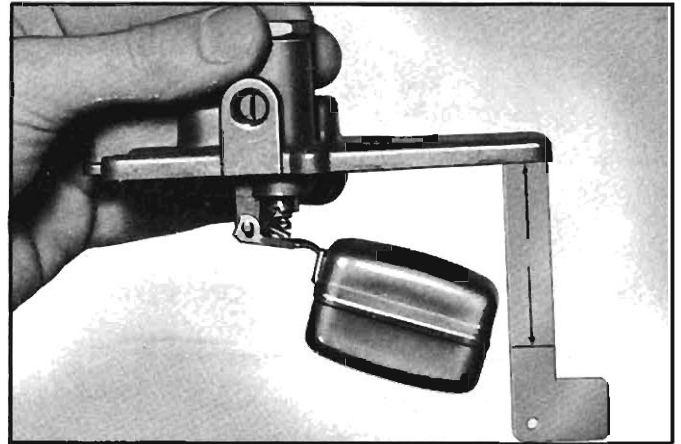

Fig. 9-30—Measuring Float Drop
6. Measure the distance between cover gasket surface and bottom of float at free end (fig. 9-30). This **FLOAT DROP** dimension should be  $2\frac{3}{8}$ "  $\pm$  .16.